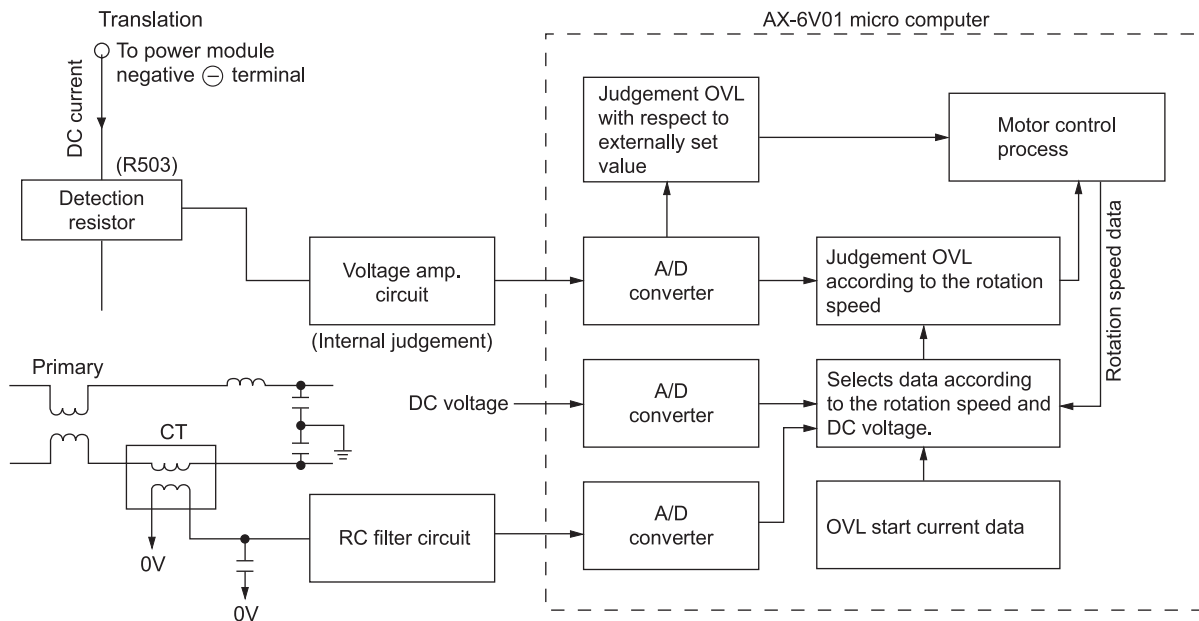
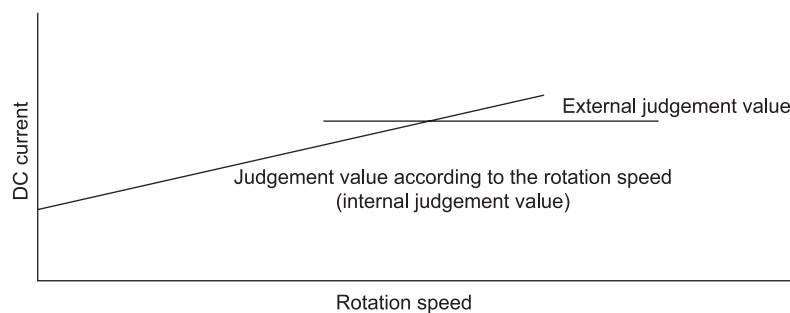

Fig. 8-1 Overload Control System Configuration
Fig. 8-2
- Fig. 8-1 shows the overload control system configuration and Fig. 8-2 is a characteristic diagram of overload judgement values. There are two judgement methods-external judgement which compares the externally set value with the DC current value regardless of the rotation speed and internal judgement which compares the set value that according to the rotation speed programmed in the micro computer software with the DC current value.